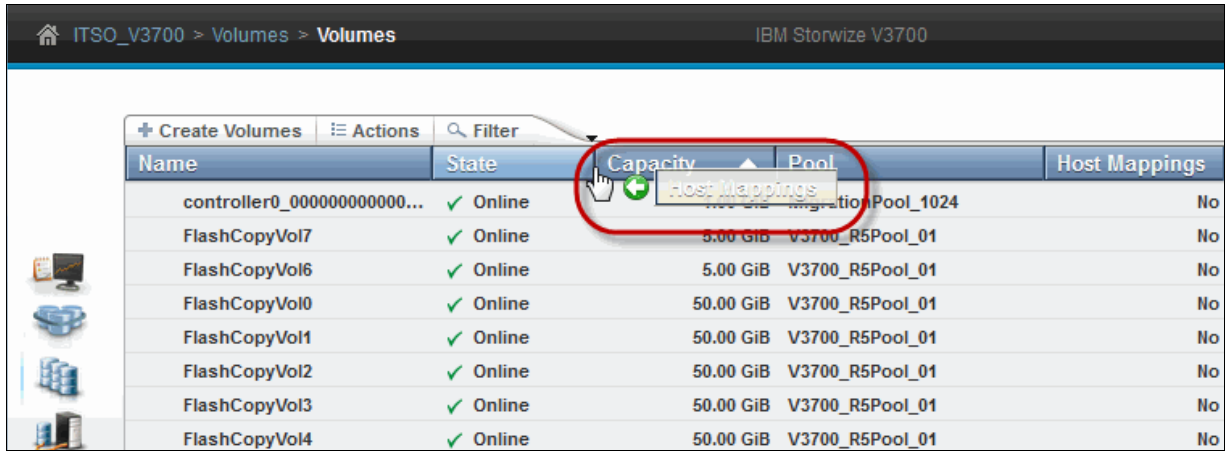

Figure 3-17 Dragging a column heading to the required location
- Figure 3-17 shows the column heading Host Mappings as it is dragged to the required location.